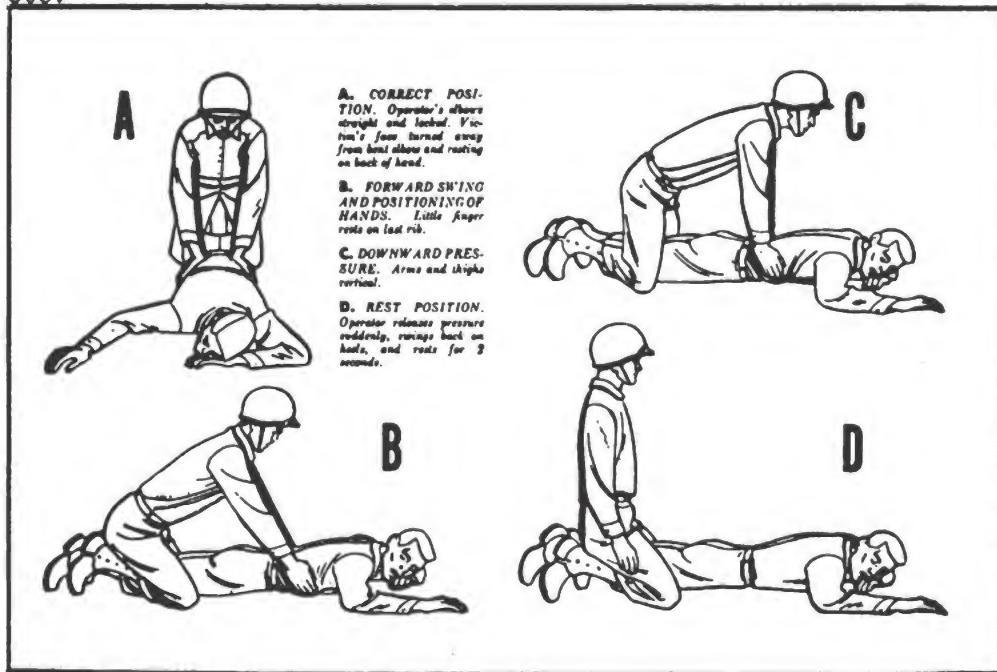

Figure 270.—Artificial respiration.
The prone method of applying artificial respiration is shown in figure 270. Here are the steps to follow:
1. Loosen any tight clothing to permit free circulation. Lay the victim in a prone position, face down. Extend one of his arms directly overhead. Bend the other arm at the elbow so that his head will lie on the back of the palm. Turn the victim's face away from the bent elbow for free breathing space (view A, figure 270.)
- d. Your elbows will be straight and locked (view *B*, figure 270).
4. Begin the artificial respiration by swinging forward and exerting a downward pressure. (view *C*, figure 270.) This motion should take 1 second. Release the pressure suddenly, and swing back to a sitting position on your heels. This motion should also take 1 second (view *D*, figure 270).